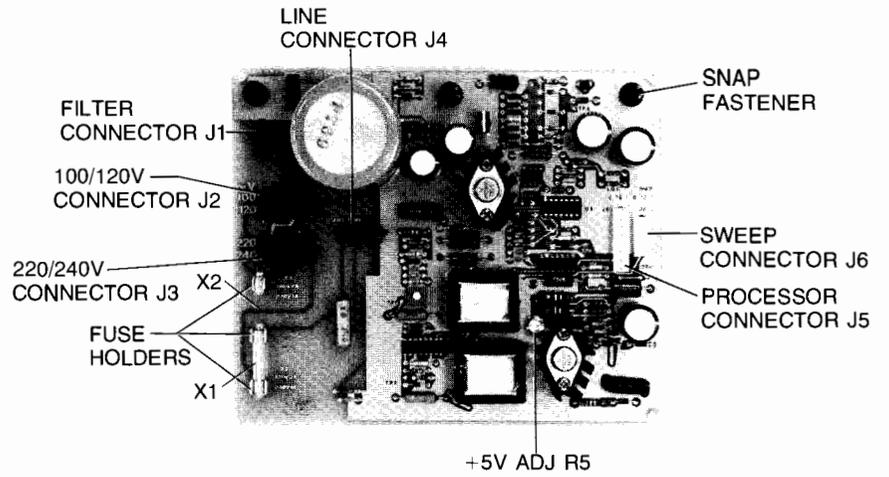

Figure 2-5. 2621A Power Supply PCA
3. Check that the fuse is inserted in the set of fuse holders which comes closest to matching the power source (figures 2-5 and 2-6). Also check that the amperage rating of the fuse is as indicated on the Power Supply PCA. For 2621P, the Power Supply PCA must be removed to check the fusing.